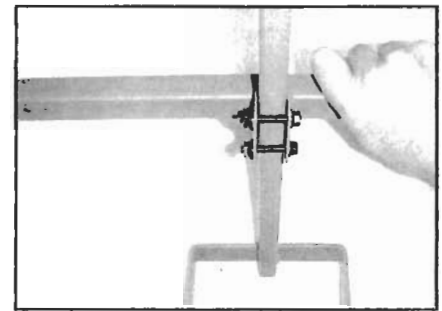

Fig. 3
Step 2. Place the u-shaped arm rest bar on the vertical support bar as shown in **Figure 2**. Use the two 1-1/4" bolts, washers and nuts to attach it and hand tighten the bolts as shown in **Figure 3**. The distance from the top edge of the u-shaped tree stand-off to the bottom edge of the vertical support bracket attachment should be 5-1/2 inches as shown in **Figure 4**. **Step 3.** Attach the two wire support rods to the u-shaped tree stand-off with two of the 1-1/4" bolts, nuts and washers and hand tighten (**Figure 5**). Attach the other end of the wire support rods to the **INSIDE** of the u-shaped arm rest bar with the remaining two 1-3/4" bolts, nuts and washers and hand tighten. (**Figure 6**). **Step 4.** Check to make sure that the distance from the top edge of the u-shaped tree stand-off to the bottom edge of the vertical support